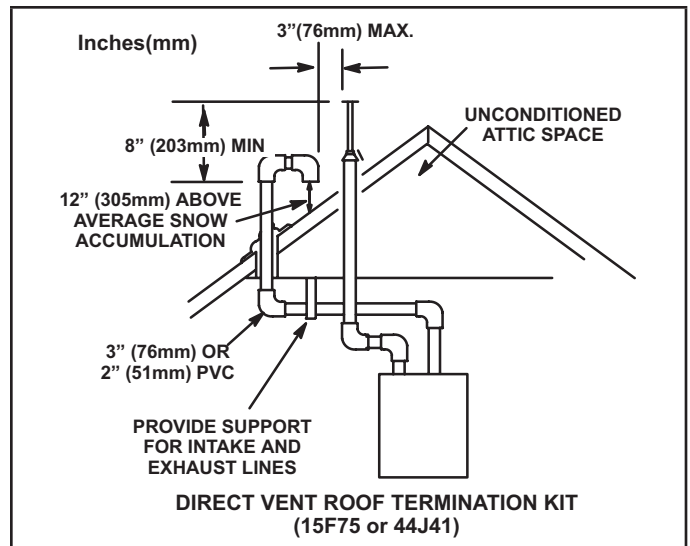
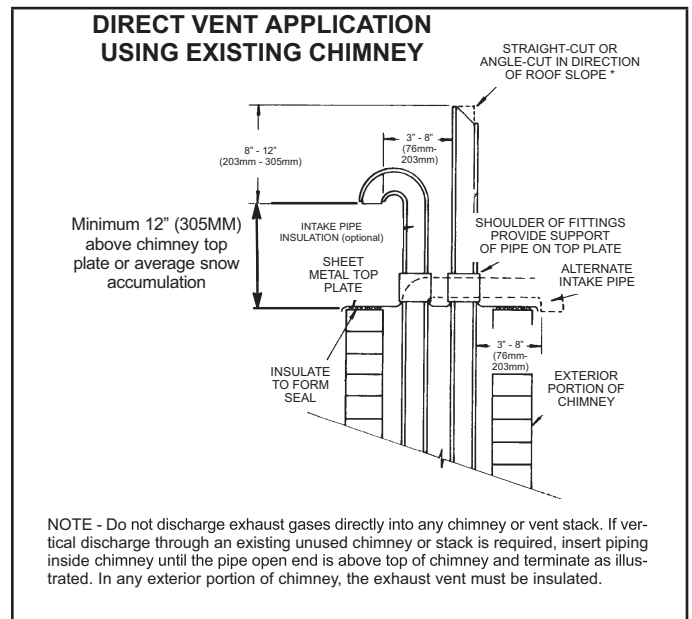

FIGURE 31
FIGURE 38
Intake and exhaust pipes may be routed either horizontally through an outside wall or vertically through the roof. In attic or closet installations, vertical termination through the roof is preferred. FIGURE 31 through FIGURE 38 show typical terminations.
- 3 - On roof terminations, the intake piping should terminate straight down using two 90° elbows (See FIGURE 31).